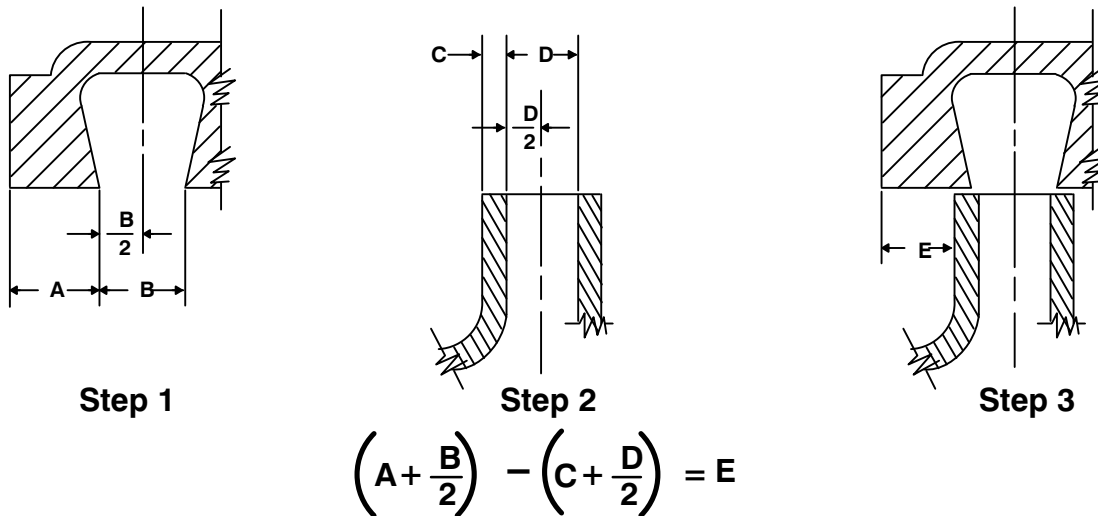

Figure 4. Centering Impeller Within Pump Casing
For maximum pump efficiency, the impeller must be centered within the volute scroll. To verify impeller positioning, measure the pump casing and impeller as shown in Figure 4. Use these measurements to calculate the required impeller location (dimension E). Add or remove impeller adjusting shims (55) to obtain dimension E.